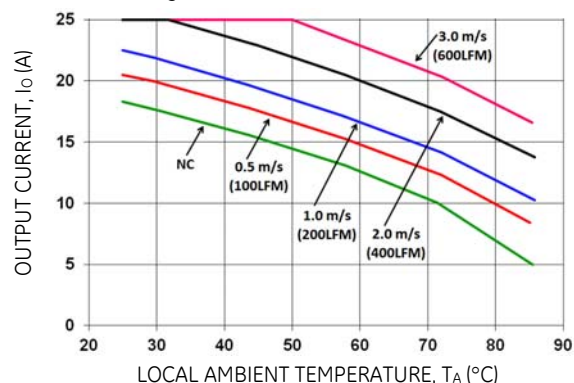

Figure 20. Output Current Derating for the Open Frame EBVW025A0B in the Transverse Orientation; Airflow Direction from $V_{in}(-)$ to $V_{in}(+)$; $V_i = 48$ V.
Increased airflow over the module enhances the heat transfer via convection. The thermal derating of figures 20 through 22 show the maximum output current that can be delivered by each module in the indicated orientation without exceeding the maximum TH_x temperature versus local ambient temperature (T_A) for air flows of, Natural Convection, 1 m/s (200 ft./min), 2 m/s (400 ft./min).
The use of Figures 20 is shown in the following example:
Determine required airflow (V) (Use Figure 20):